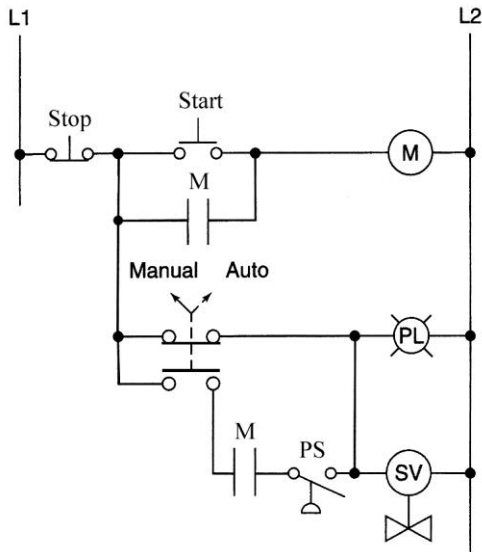

Figure 6-29 Hardwired circuit for assignment 5.
5) The hardwired manual/automatic circuit shown in Figure 6-29 can be programmed using a PLC. The operation of the process is summarized as follows: